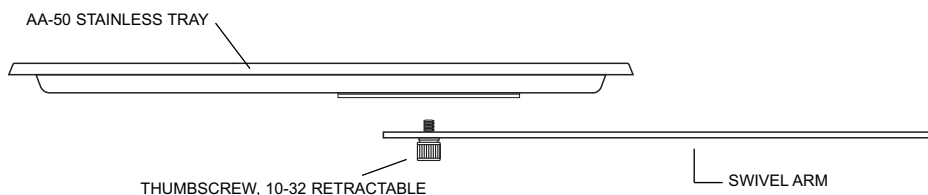
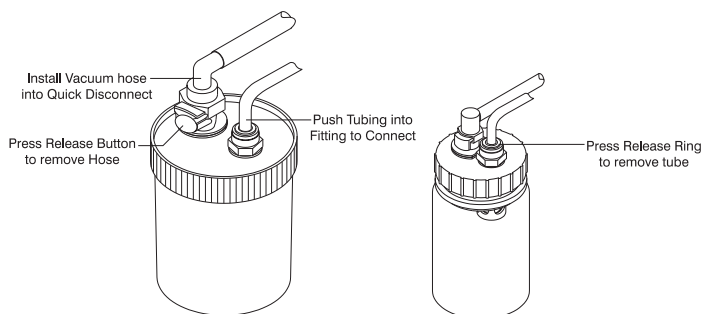

Figure 1 - AA-50 Stainless Steel Tray Assembly
Figure 2 - HVE & Saliva Ejector Waste Reservoirs
2. Remove the instrument tray and swivel bracket assembly from the case. Attach the swivel bracket onto the bottom of the instrument tray, rotate to the extended position and secure with the thumbnut (see *fig. 1*). Pinch tray and bracket assembly between case lid and base for mounting (*Fig. 2*).
5. Remove the high and low volume vacuum hose assemblies from their labeled storage pouch and install the HVE hose assembly into the quick disconnect on the lid of the large 1000ml HVE waste reservoir, and the Saliva Ejector hose assembly into the quick disconnect on the lid of the small 1pint Saliva Ejector reservoir. Hang vacuum valves in holders on delivery head. *Figure 2*